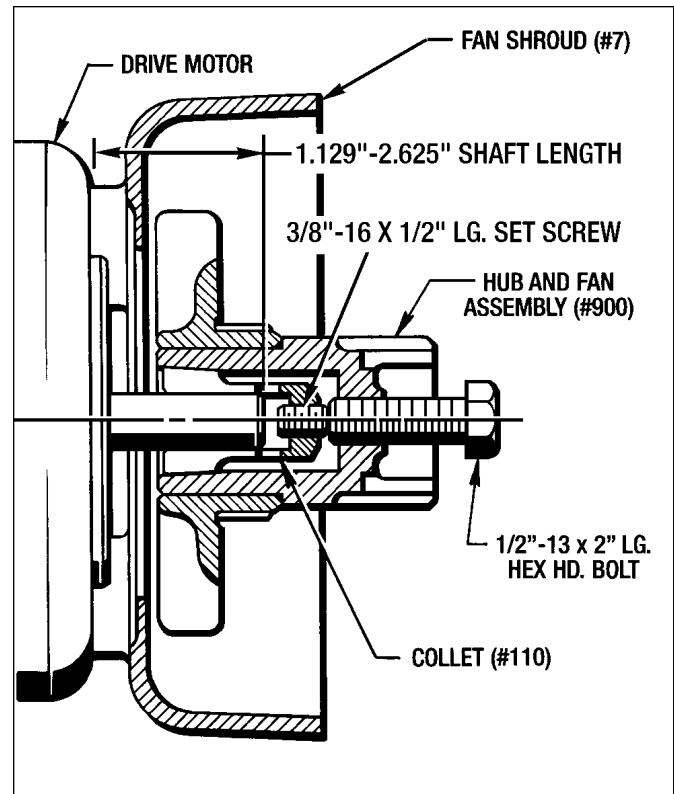

Figure 7.4 - Removing Hub (#2) and Collet (#110)
5. Thread a 3/8"-16 x 1/2" Lg. Set Screw into the Collet (#110) as shown in *Figure 7.4*. Make sure this set screw extends approx. 1/8" beyond the end of the Collet (#110).
6. Thread a 1/2"-13 Hex Hd. Bolt into the Hub (#2) until it contacts the 3/8"-16 x 1/2" Lg. set screw. Holding the Hub (#2) with the screw driver, continue turning the bolt until the Hub (#2) is forced off the Collet (#110). (See *Figure 7.4*) Remove both the 3/8"-16 Set Screw and the 1/2"-13 Hex Hd. Bolt.